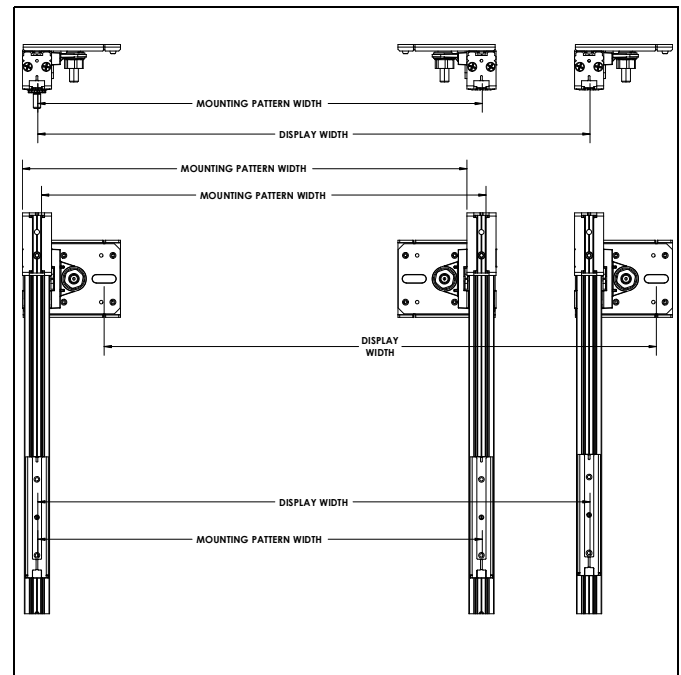
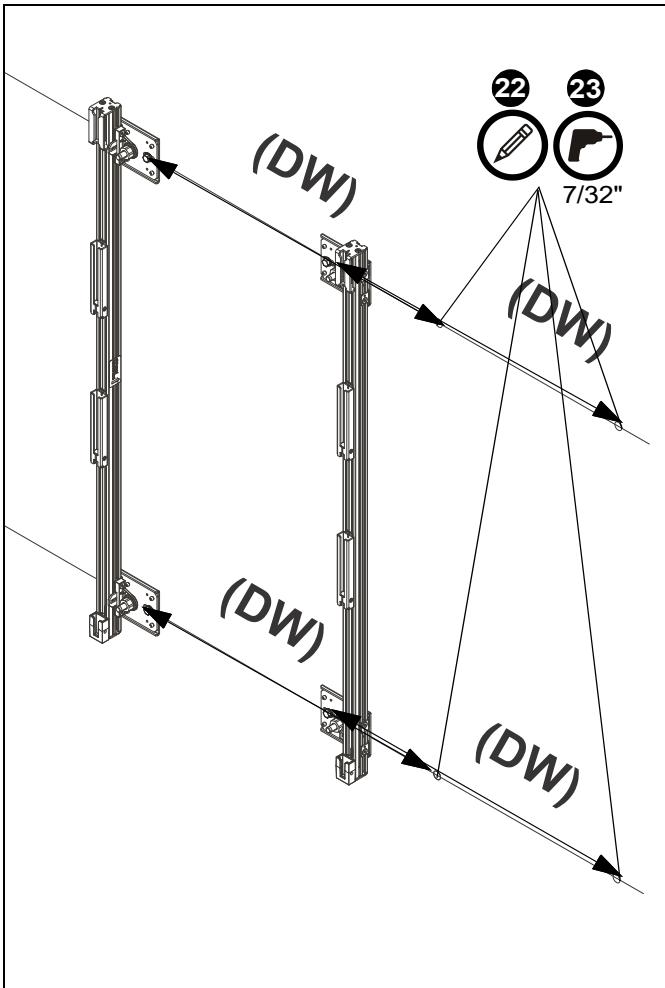

Figure 8
Figure 10
20. Use a tape measure to ensure the uprights (A and B) are mounted the proper distance apart from each other based on mounting pattern width (MPW). (See Figure 8)
22. Measure one display width (DW) from mounting holes in uprights already installed to mark holes for next set of uprights (A and B). (See Figure 8) and (See Figure 10)
23. Drill 7/32" mounting holes at marked locations. (See Figure 10)